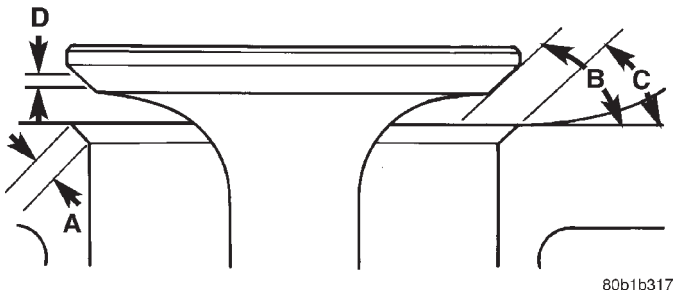

Fig. 21 Valve Seats
The intake and exhaust valves have a 44.5 to 45 degree face angle. The valve seats have a 45 to 45.5 degree face angle. The valve face and valve seat angles are shown in (Fig. 21).
(4) When seat is properly positioned the width of the intake seats should be 0.75 to 1.25 mm (0.0296 to 0.0493 in.) and exhaust seats should be 1.25 to 1.75 mm (0.049 to 0.069 in.) (Fig. 21).